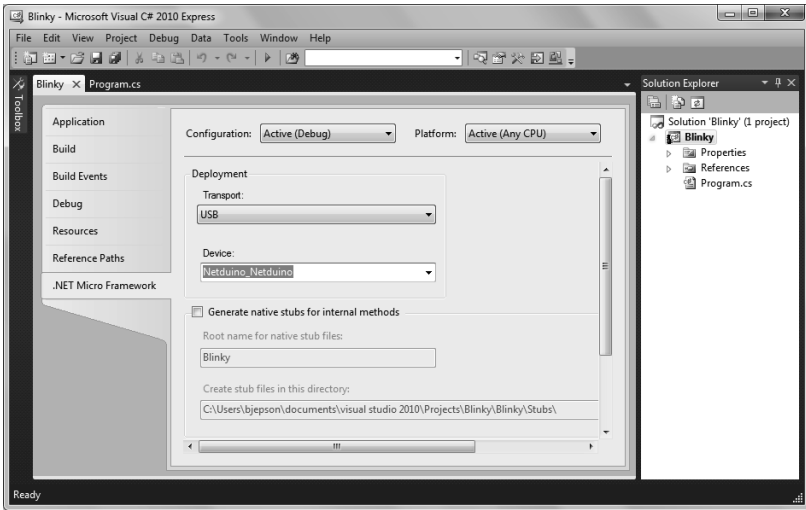

Figure 3-3. Setting the project's .NET Micro Framework properties
2. Now you're ready to change the deployment target from the Emulator to the Netduino. Change the Transport from Emulator to USB and then make sure that the Device selection box shows your Netduino, as shown in Figure 3-3. If it doesn't, unplug and reattach your Netduino.